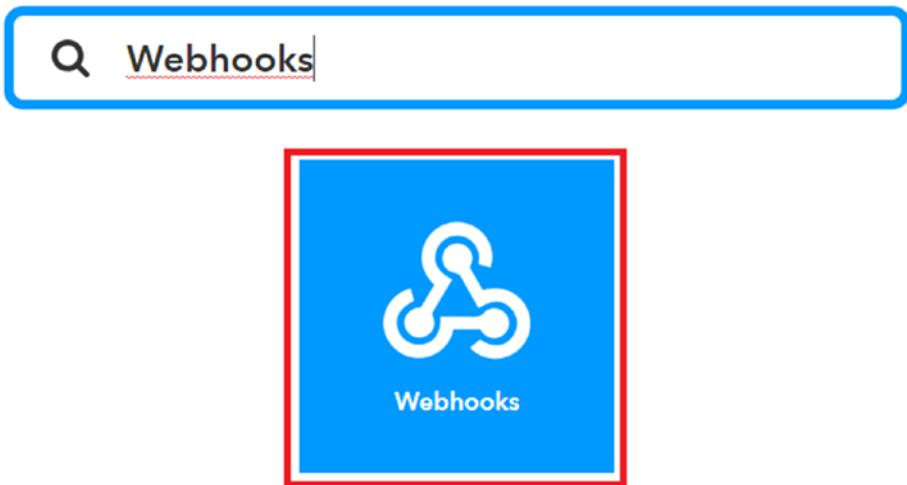

Figure 8-28. Choosing a service
- On the “Choose a service” page, in the search services text box, type **Webhooks**. Then click the Webhooks button (Figure 8-28).